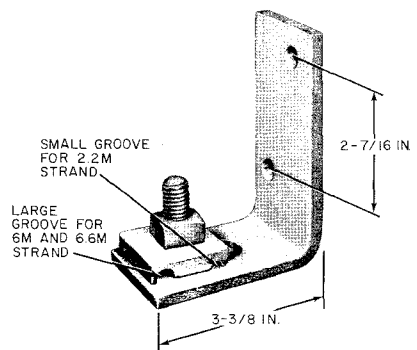

Fig. 8—S Wall Bracket
3.03 S Wall Bracket (Fig. 8): Used for supporting strand on interior walls of either frame or masonry construction where not more than 2 inches of clearance is required between cable and wall.